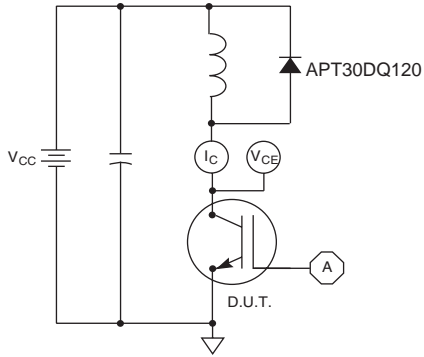

Figure 21, Inductive Switching Test Circuit
① Repetitive Rating: Pulse width limited by maximum junction temperature.
② For Combi devices,  $I_{ces}$  includes both IGBT and FRED leakages.
③ See MIL-STD-750 Method 3471.
④  $E_{on1}$  is the clamped inductive turn-on energy of the IGBT only, without the effect of a commutating diode reverse recovery current adding to  $z$  at the IGBT turn-on loss. Tested in inductive switching test circuit shown in figure 21, but with a Silicon Carbide diode.
⑤  $E_{on2}$  is the clamped inductive turn-on energy that includes a commutating diode reverse recovery current in the IGBT turn-on switching loss. (See Figures 21, 22.)
⑥  $E_{off}$  is the clamped inductive turn-off energy measured in accordance with JEDEC standard JESD24-1. (See Figures 21, 23.)
⑦  $R_G$  is external gate resistance not including gate driver impedance.